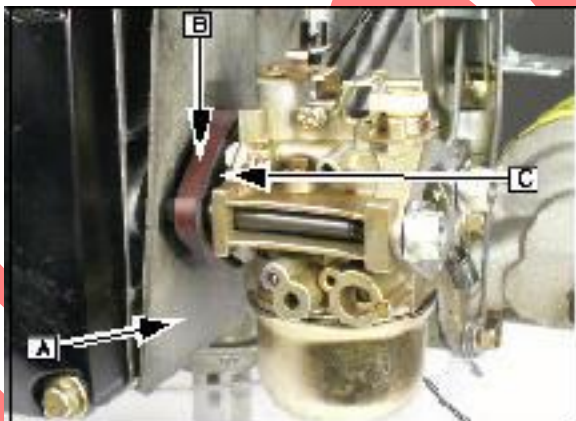

Fig. 13
Place the large gasket (A), spacer (B) and carburetor gasket (C) as shown in (Fig.13).